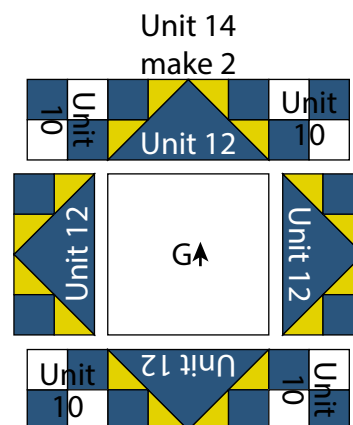

Fig. 22
25. Sew (1) Unit 10 square to each end of (1) Unit 12 strip to make the top row. Repeat to make the bottom row. Sew (1) Unit 12 strip to each side of (1) $6\frac{1}{2}$ " Fabric G square to make the middle row. Sew together the (3) rows lengthwise to make (1) $12\frac{1}{2}$ " Unit 14 square (Fig. 22). Repeat to make a second Unit 14 square.